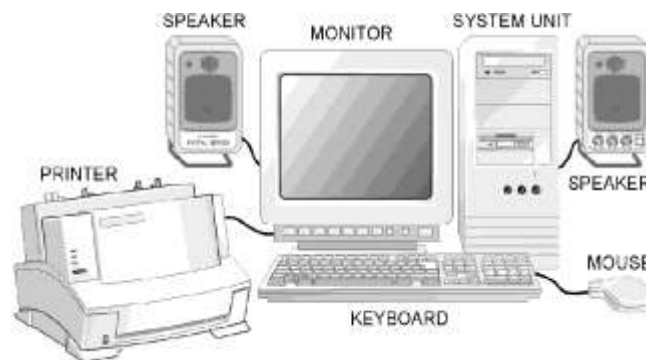

Figure 1.1 A typical personal computer system.
This experiment examines the fundamental organization and operations of a personal computer system. As a technician, you should know and be able to identify the components found in a typical personal computer (PC) system. As shown in Figure 1.1, the PC is modular by design. It is called a system because it includes all the components required to have a functional computer.